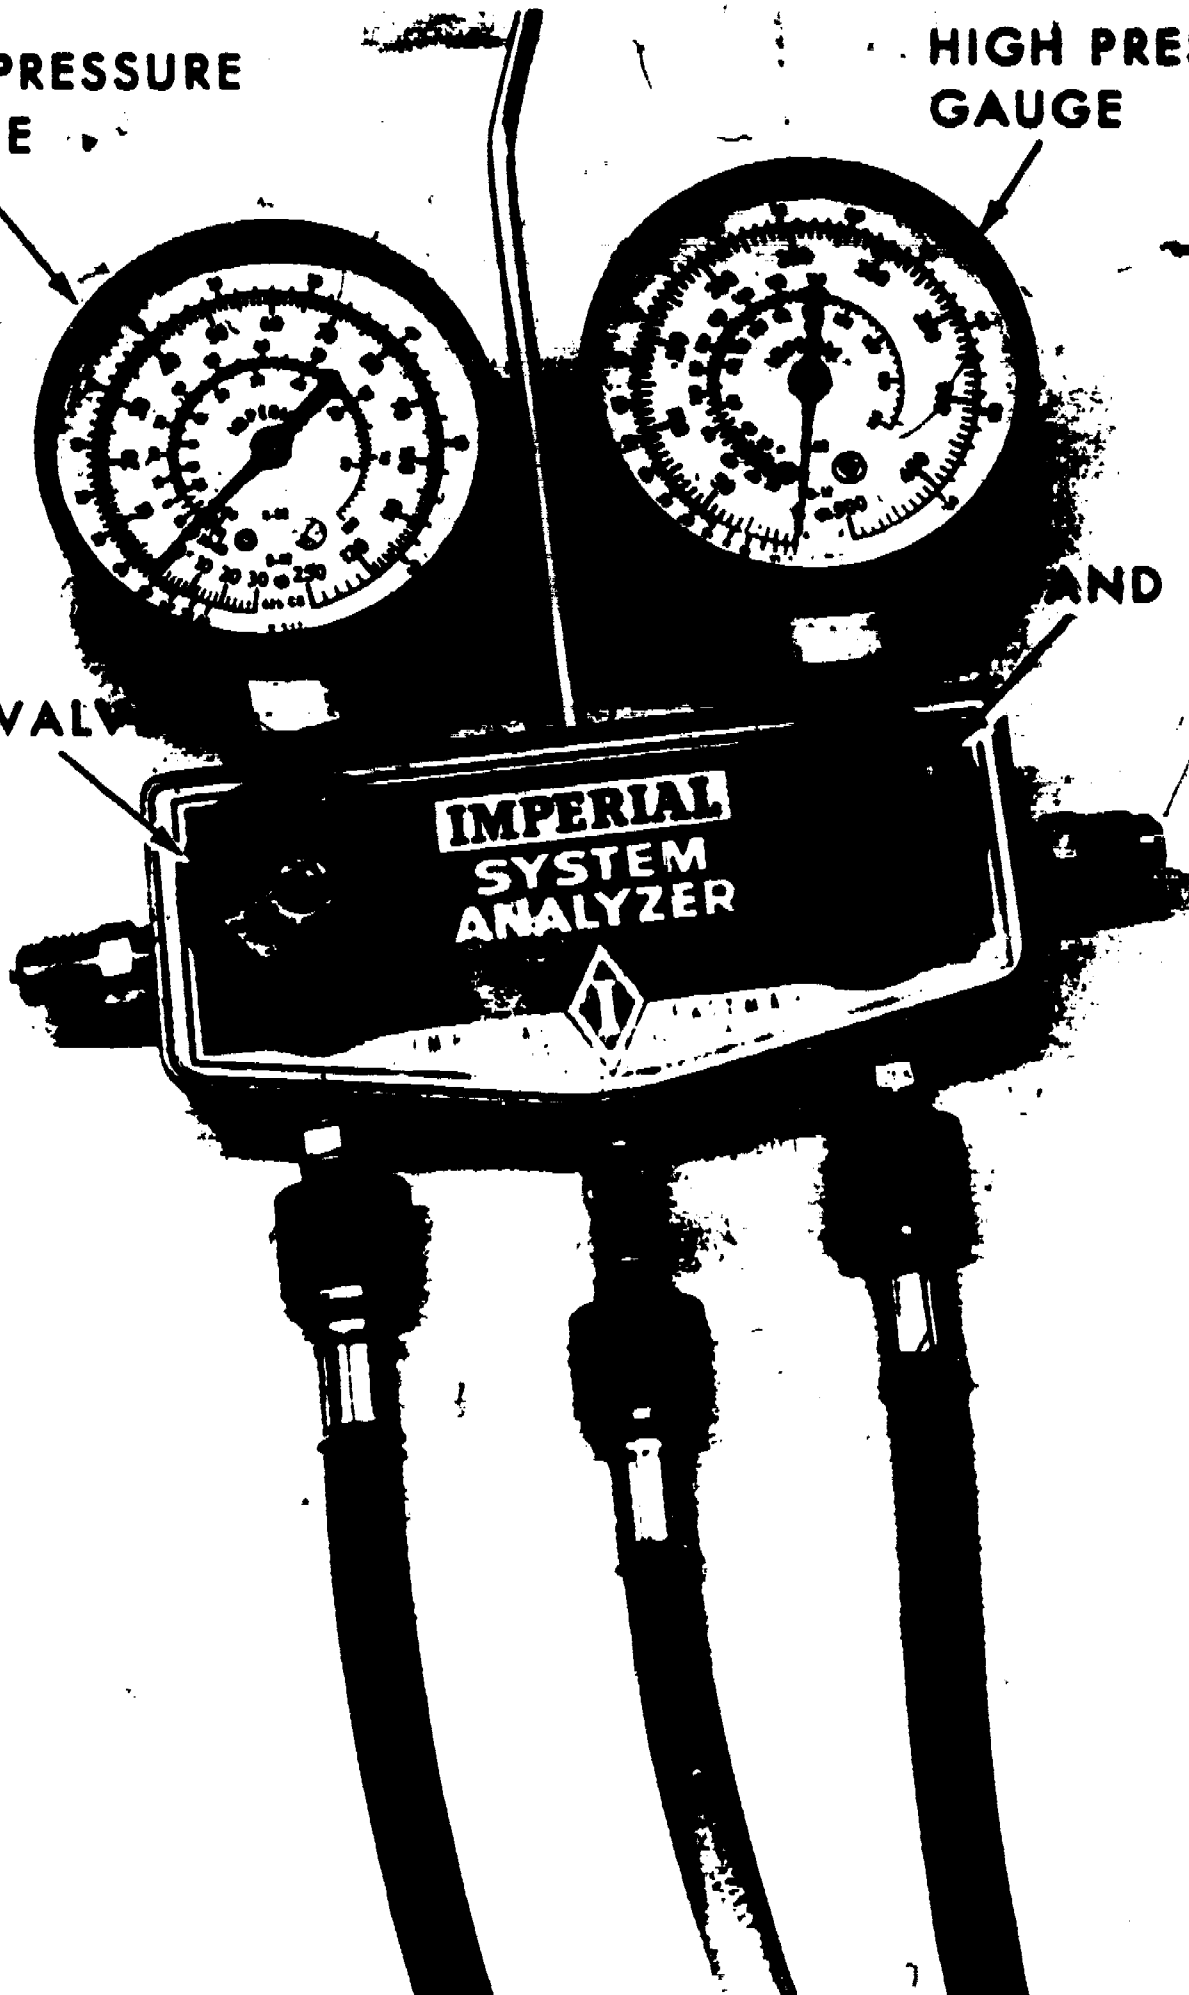

Figure 87. Below Zero Gauge Readings Indicate No Leaks.
7. Look at the gauges. If no leaks are present, both gauges will read below zero, as in figure 87. If the high pressure gauge does not read below zero, it indicates one of three things: